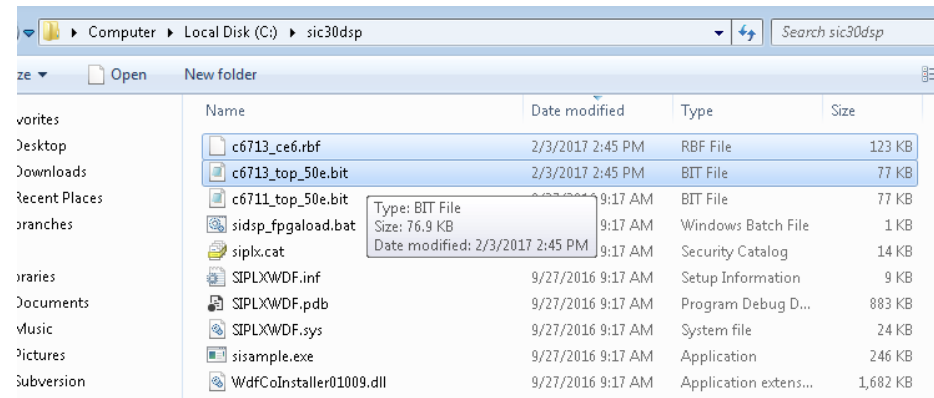

Figure 1
5. Extract **sic30dsp\_Unlocking.zip** and paste extracted files to replace existing files in "C:\sic30dsp" folder. (Figure 1)